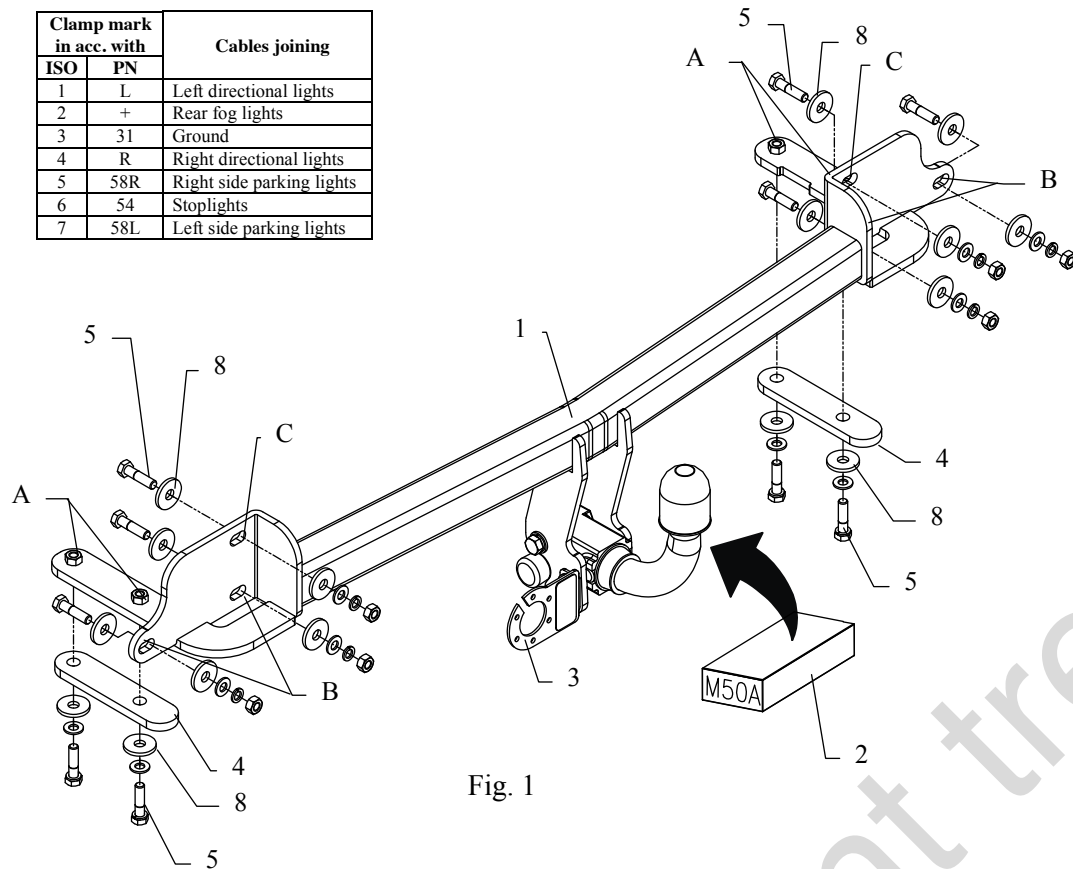

Fig. 1
4. Put main bar of towbar (pos. 1) into chassis and screw loosely according to fig. 1 through hole pos. A using bolts M10x40mm (pos. 5).